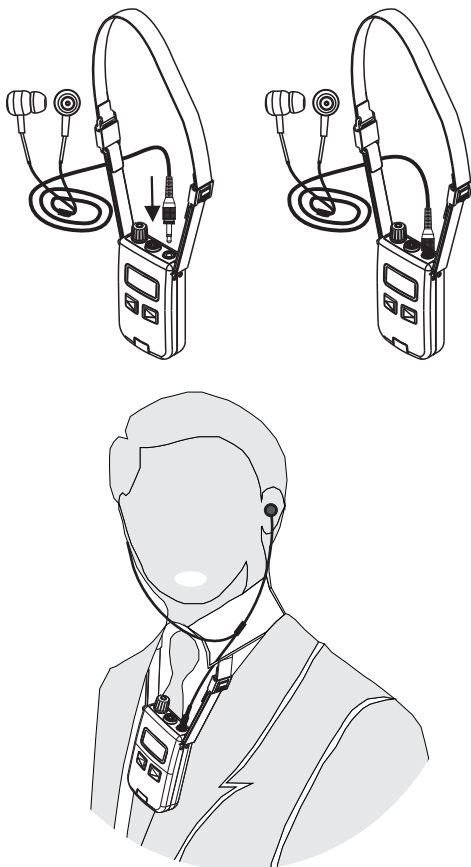

Fig. 16
3. Receiver Audio Input , Fig. 16: